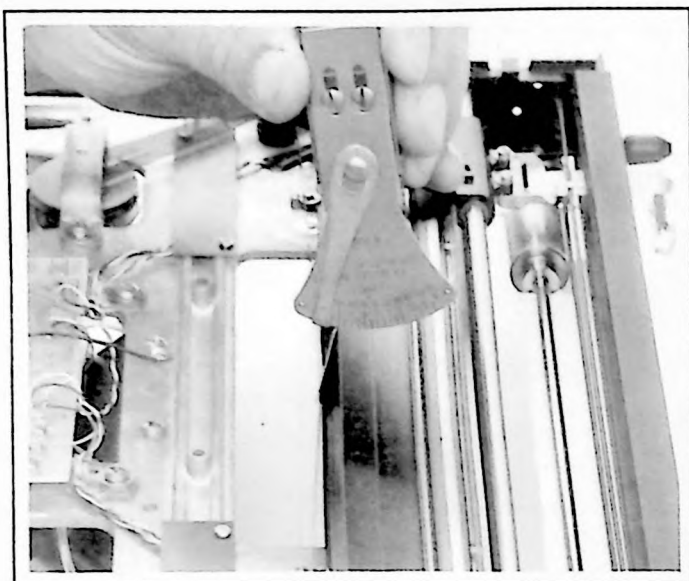

Figure 5-19. Driven Belt Tension Adjustment
- b. Place gram gauge on belt at center of slidewire mount. Tension should measure 34 grams. (Deflected belt will touch back of slidewire mount at 34 grams.) See Figure 5-19.